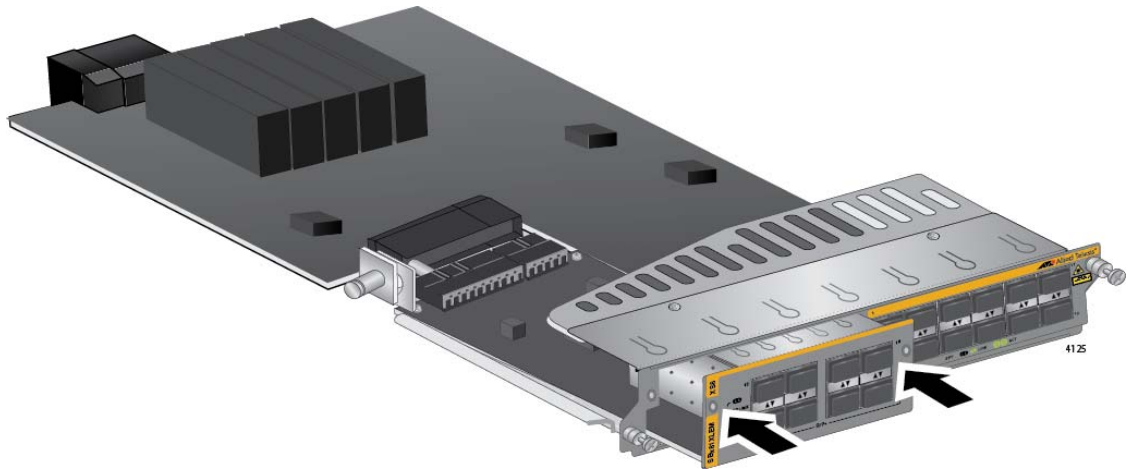

Figure 87. Seating the Expansion Module on the Connector in the AT-SBx81XLEM Line Card
9. When the expansion module makes contact with the connector inside the line card, gently press on both sides of the faceplate to seat the module on the connector. Refer to Figure 87 on page 147. The module is fully installed when its faceplate is flush against the faceplate of the AT-SBx81XLEM Line Card.